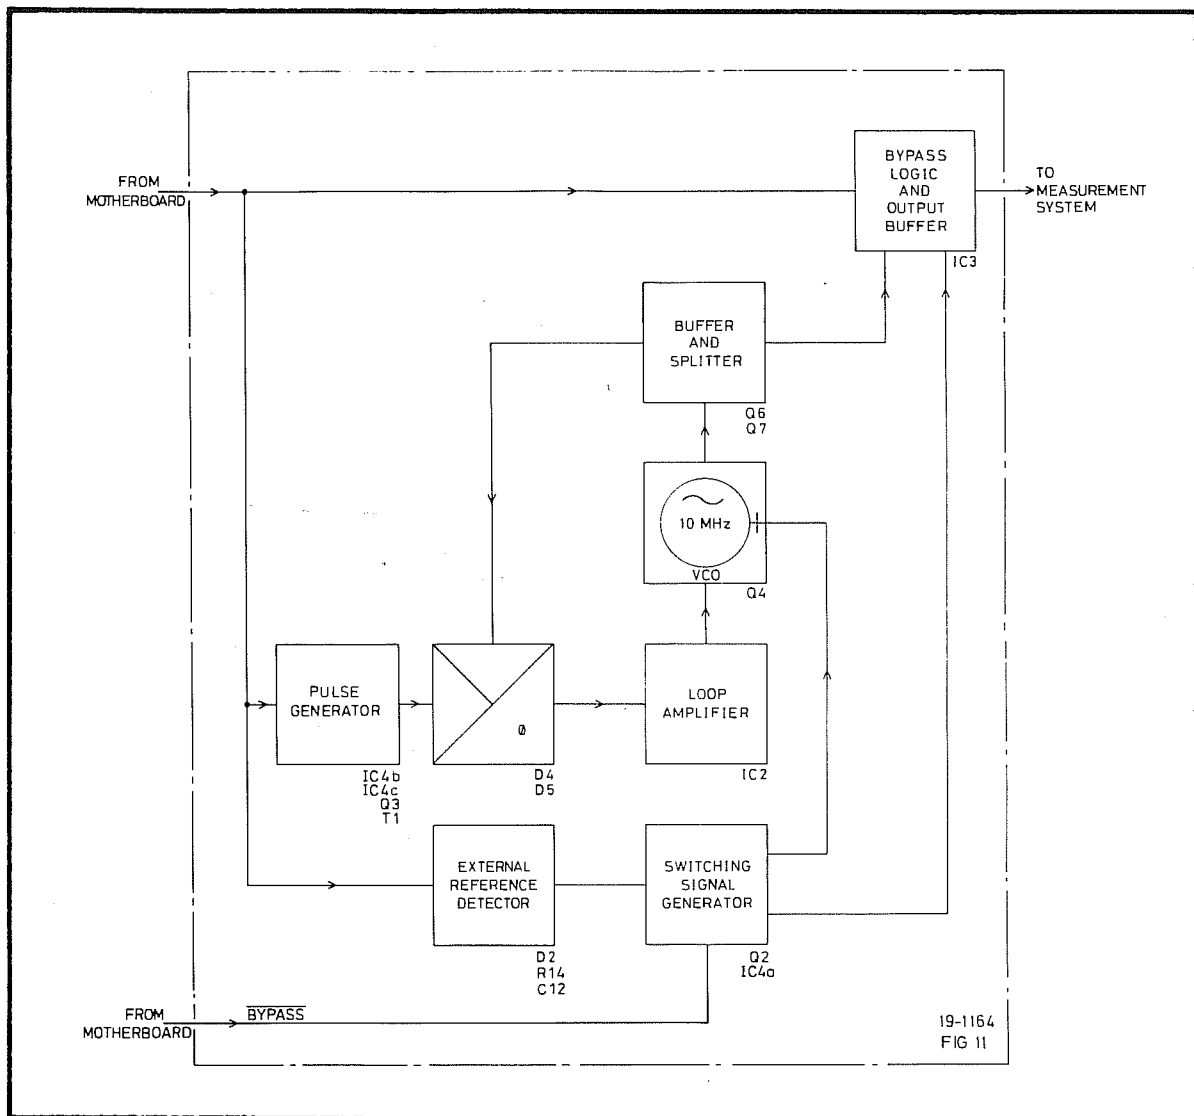

Fig. 6.11 The Reference Frequency Multiplier
- 104 The block diagram of the multiplier is given in Fig. 6.11. The input to the circuit is taken from the EXT STD INPUT socket on the rear panel, via a signal conditioning circuit on the motherboard. The output of the circuit is passed to the measurement system. The BYPASS control line is held at logic '1' by the +5 V STANDBY supply.